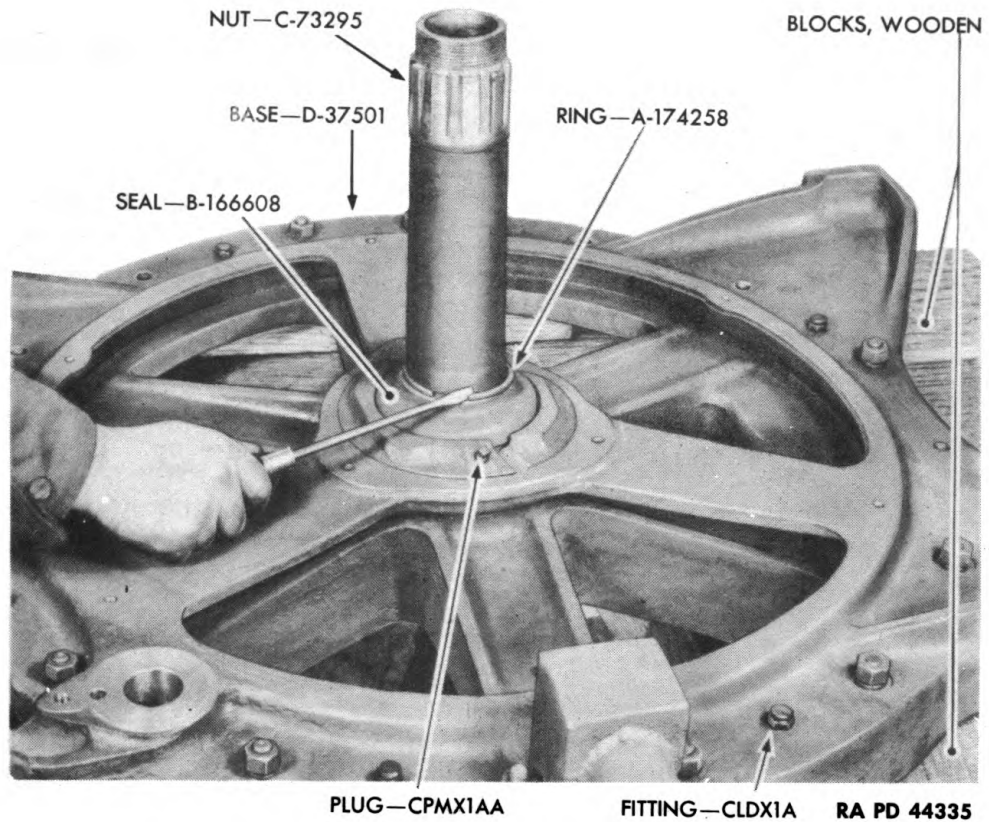

Figure 326—Removing Oil Seal Lock Ring
n. Remove Oil Seal Lock Ring (figs. 326 and 333).
(1) Pry out lock ring A174258 and slide lock ring and oil seal retaining washer A174259 off limber lifting mechanism nut C73295.